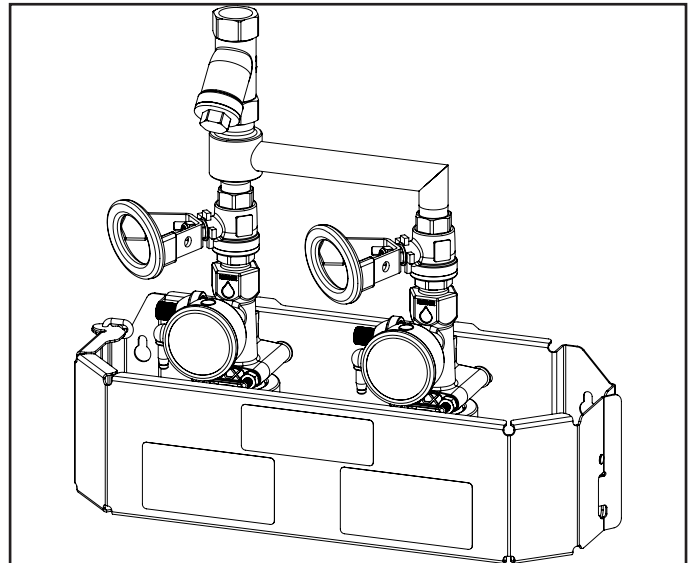

Fig. 7.1: Water supply ball valves closed.
1. Ensure unit is properly connected and the water valve is closed [Fig. 7.1]
1. Ensure system is properly connected and the water supply valves are closed [Fig. 7.1]